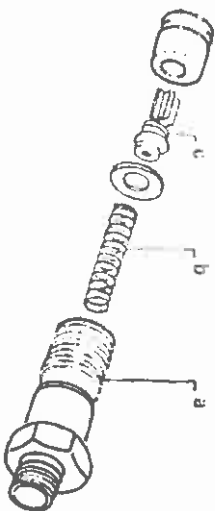

Fig. D 5
- Dévisser (fig. D 5) le raccord support de soupape de pression a et enlever le ressort b et la soupape c.
- Unscrew (fig D 5) the pressure valve support connector a) and remove the spring b) and valve c).